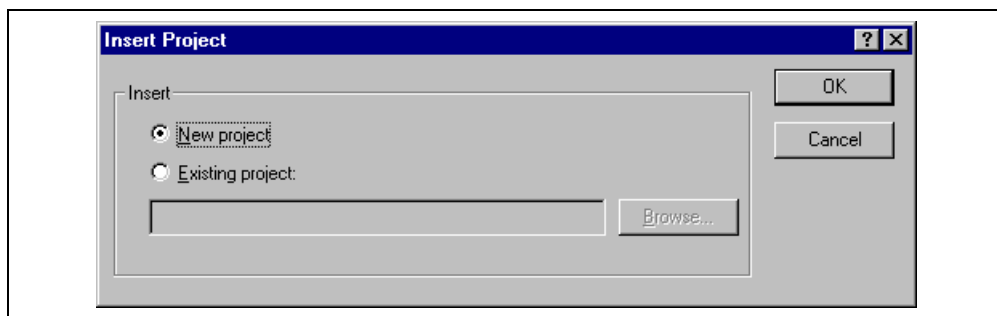

Figure 2.24: Insert Project Dialog
1. Select [**Project->Insert Project...**]. The “Insert Project” dialog will be displayed (figure 2.24).